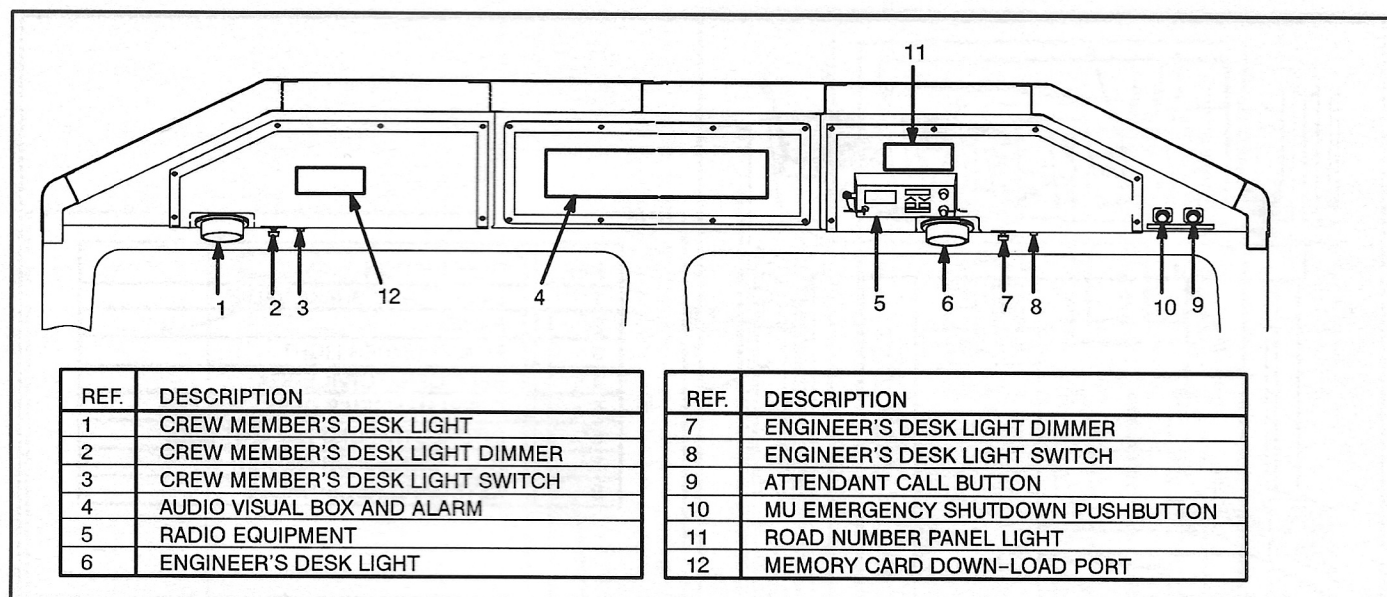

FIG. 10. OVERHEAD CONSOLE. E-39923A.
**NOTE:** *Numbers in parentheses ( ) refer to Items found on Fig. 10 of this publication unless noted otherwise.*
A radio auxiliary control head (2) ties-in with the two-way radio equipment located in the Overhead Console (Fig. 10, Item 5). A hand held telephone-style microphone (7) is also mounted on this console for helper use.